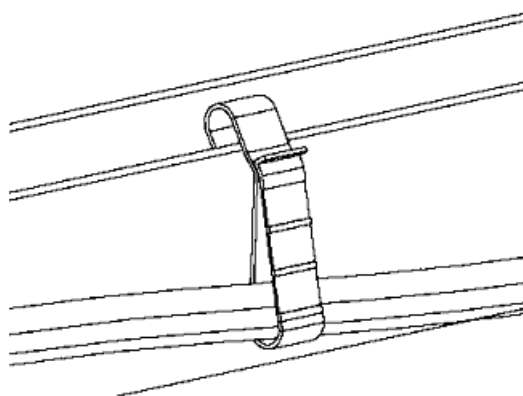

Figure 12 . Cable clip
- Use cable clips to attach the cable to the PV module frame. Leave no more than 1.8 m (six feet) between cable clips. (See Figure 12)